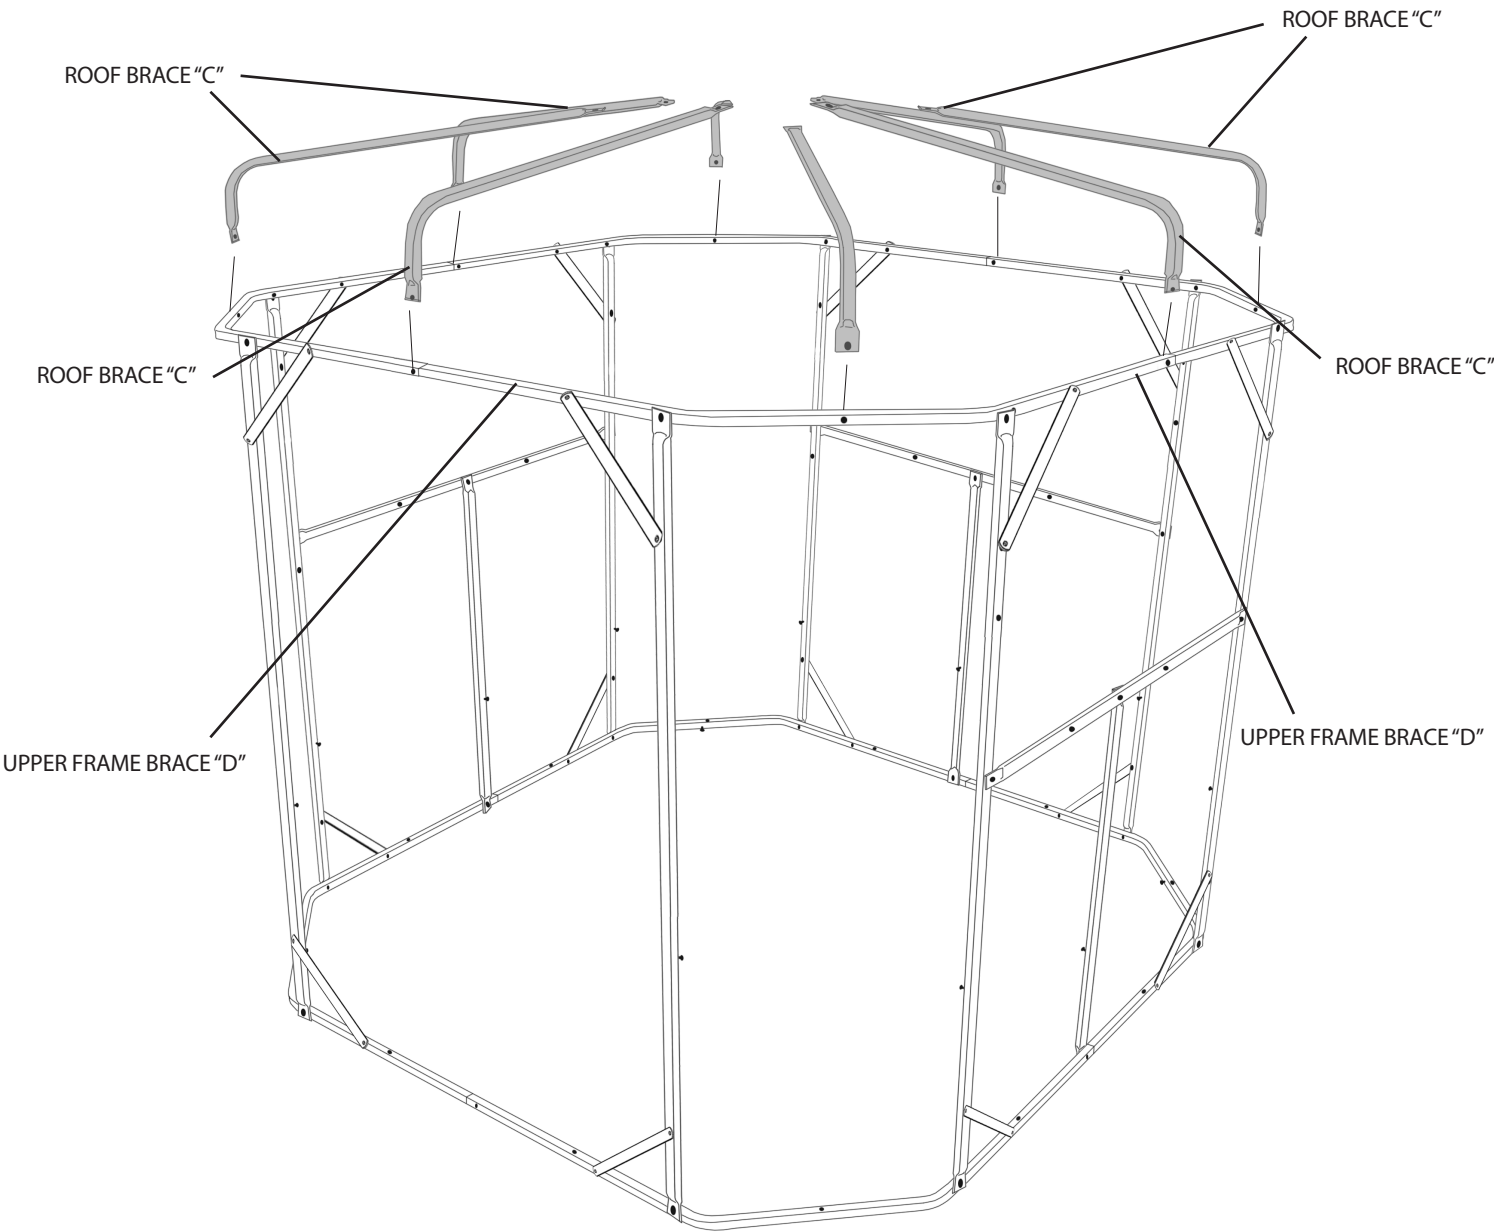

Figure 18.1
STEP 10: Locate the (8) ROOF BRACES "C". Using (8) 1-1/4" BOLTS & (8) NUTS attach the (8) ROOF BRACES "C" to the UPPER FRAME BRACES "D", as illustrated in Figure 18.1.
NOTE: The (8) ROOF BRACES "C" will be fastened to the outside of the UPPER FRAME BRACES, on what would be the exterior of the blind, as illustrated in Figure 18.1.